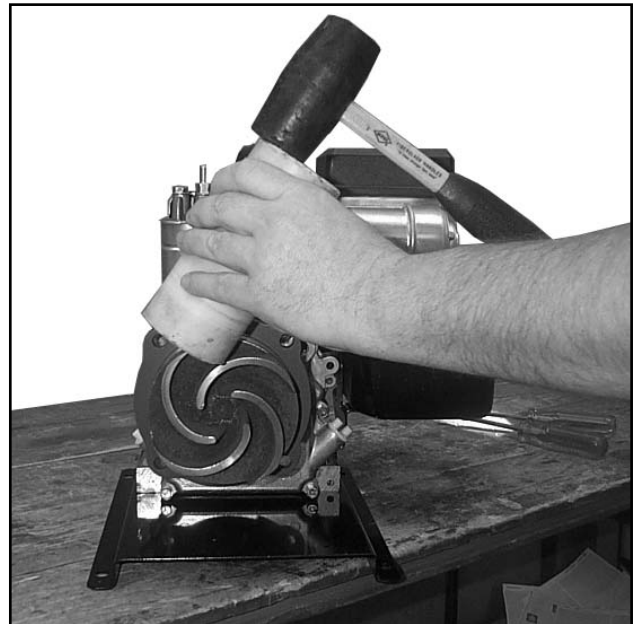

FIGURE 1
7. Remove impeller. Place a piece of wood against the outer edge of one of the impeller vanes. Hit the wood with a hammer to turn the impeller in the same direction as the rotation of the engine (counterclockwise) until the impeller is loosened and can be screwed off the engine crankshaft (as shown in FIGURE 1).